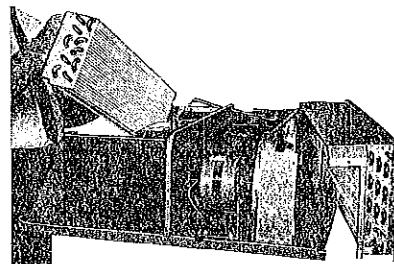

FIGURE 14
5. Remove screws holding evaporator coil in place and pull back out of the way, see Figure 14. *NOTE: When pulling these coils out, be careful not to damage tubing connected to coil.*